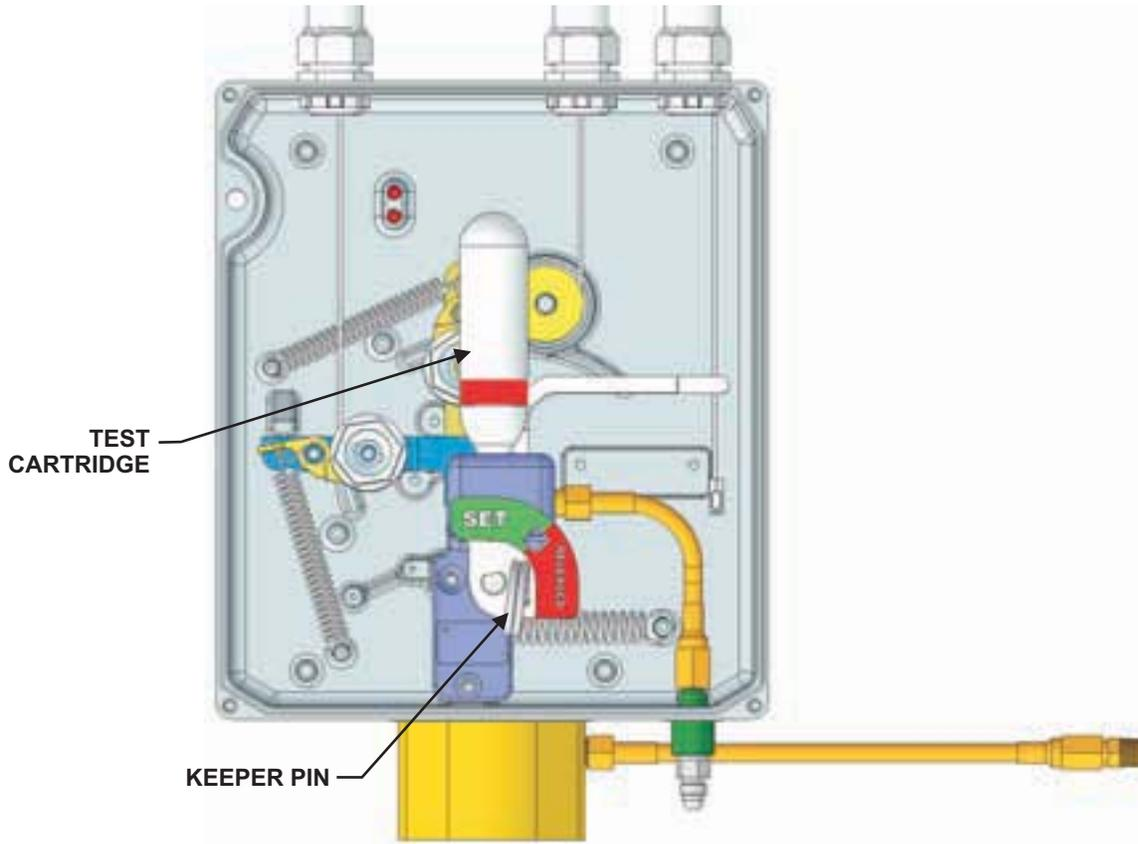

Figure 4-91. UCH Control System, Test Cartridge Placement
1. After ensuring that the system is in the 'Set' position and the Keeper Pin is in place, locate the Test Cartridge (P/N 87-120044-001). Carefully install the cartridge into the valve assembly of the UCH Control System. Tighten until cartridge is snug (see Figure 4-91). It is permissible to perform this test with the System Cartridge.